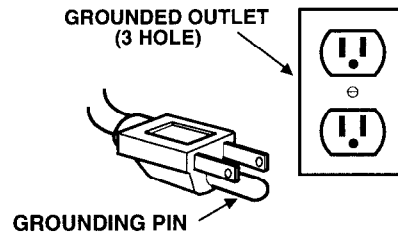

Fig. 2
2. Connect 25' extension power cord to machine and plug into 120V wall outlet. (Figure 2)
⚠ WARNING: Plug into 120V grounded outlet only. Do not use an adapter or remove ground pin on plug. Do not use if cord is damaged. (Figure 2)